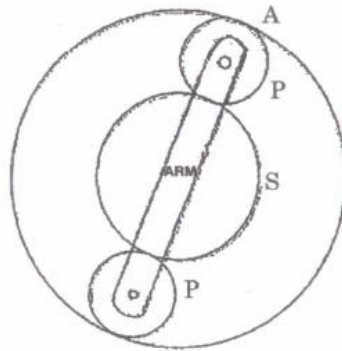

Fig. 14 (b)
- b) An epicyclic train of gears is arranged as shown in Fig. 14 (b). How many revolutions does the arm, to which the pinions P are attached, when S makes 300 rpm counter clockwise and A is stationary. The number of teeth on the gears S and A are 30 and 130 respectively.